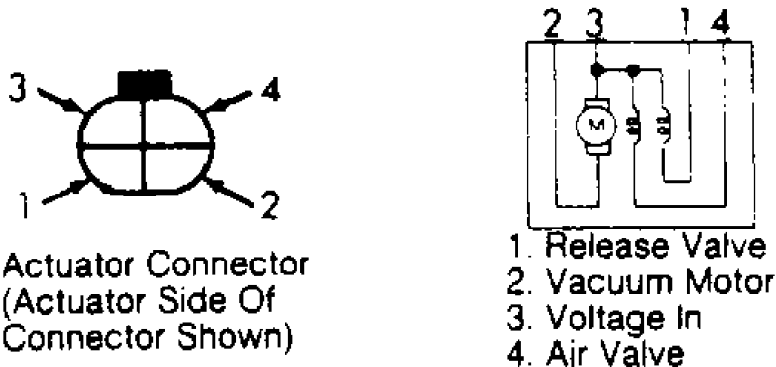

Fig. 6: Identifying Actuator Connector Terminals (Axxess)
1) Turn ignition off. Disconnect actuator harness connector from main harness. Connect battery positive lead to actuator connector terminal No. 3 and negative lead to terminal No. 2. See Fig. 6. If vacuum motor does not operate, replace actuator. If vacuum motor operates, go to step 2).